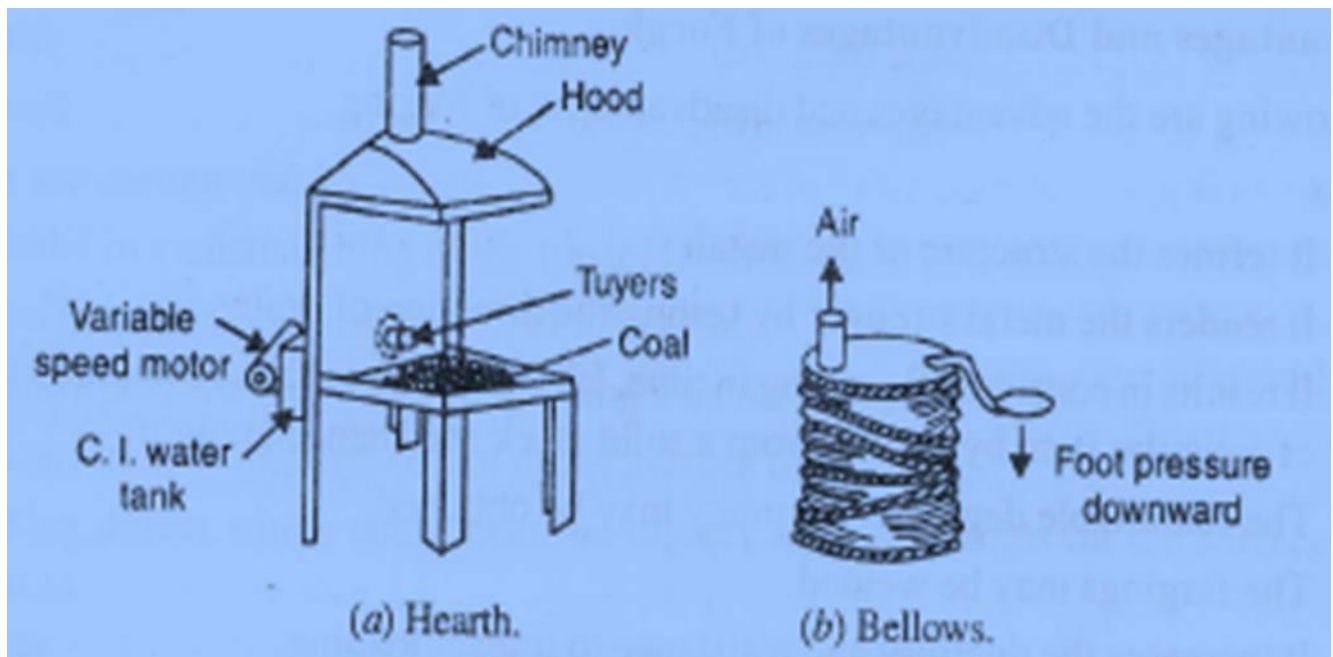

Fig.2.10.
- ✓ **Single hearth** open type consists of a shallow dish or tray made of heavy gauge mild steel or cast iron sheets. Its size varies from 1.5 m to 2.5m square and 0.8 m to 1.2 m deep. Look at Fig.2.10 below.